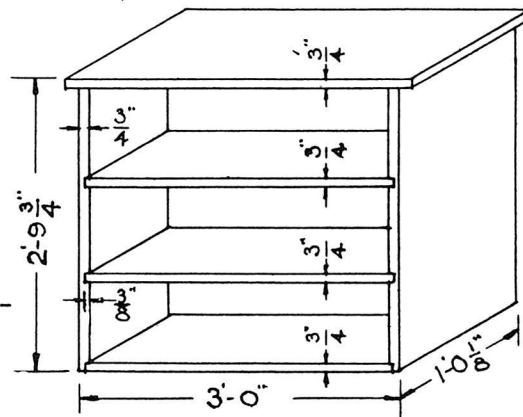

Fig. 2
8. If the shelves in Figure 2, are spaced 11" top to top, what is the distance between two successive shelves?
9. The back of the cabinet, shown in Fig. 2 is $\frac{3}{16}$ " thick. What is the depth of the shelves, if the back sets flush with the back edge of the ends?